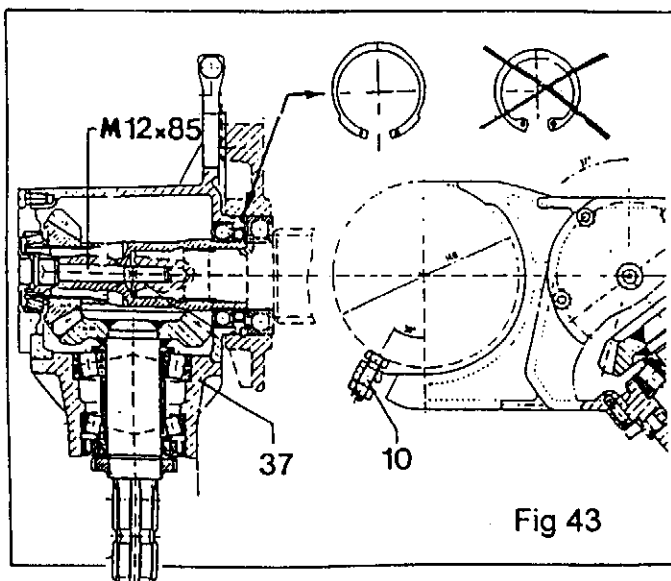

Fig 43
Before installing drive (37), insure that a special circlip JV90x3 (inner diameter = 80.3mm) is fitted in front of bearing X on gearbox (1) (fig. 43). If a circlip JV90x3 (with noses) is installed, the connection area of the drive (37) would foul the noses of the circlip. The drive would then be distorted due to the M12x85 screw.